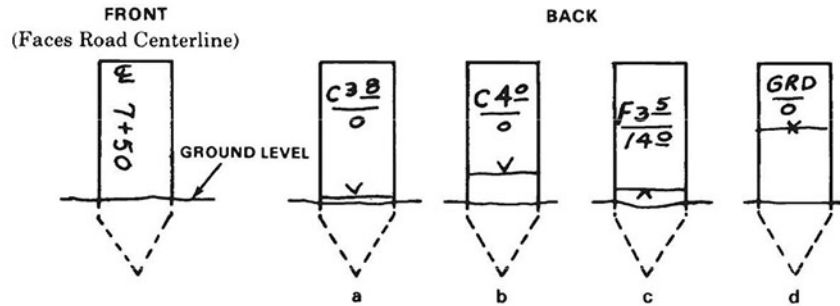

Figure 3-25. Marking grade stakes.
To make things simpler for the earth-moving equipment operators during rough grading, mark the grade stakes to the nearest half or whole foot (fig. 3-25). There are four different examples of how the grade stake can be marked. The first stake on the left is the front of the stake at station 7+50 on the centerline. Example "a" shows the back of the stake with the amount of cut above the line and the distance from the centerline below it—this one is zero (0) ft. At the base of the stake is a horizontal line with a downward-facing arrow. This provides a quick indication that a cut is required at the station to bring it to grade. Example "b" shows the same information "a" does rounded up to the nearest whole foot. Example "c" indicates a need of 3.5 of fill and that the stake is 14 ft. from the centerline. Example "d" is on the centerline and does not need cut or fill. The site supervisor, not the surveyor, will decide how many grade stakes you will place.
Once the heavy equipment operators finish rough grading, it is time to set the final grade stakes, called *blue tops*. When setting blue top stakes, it is very important that the top of the stake be at the finish elevation. The process for determining the elevation is the same as determining the cut or fill for the grade stakes—grade rod minus ground rod (fig. 3-25). Drive the blue top stake into the ground while measuring it against the rod to be certain of the correct height. Equipment operators will bring in material as fill and then grade it until they can see the blue exposed. At a minimum, these need to go at each station, but confirm with the site supervisor to ensure adequate coverage.